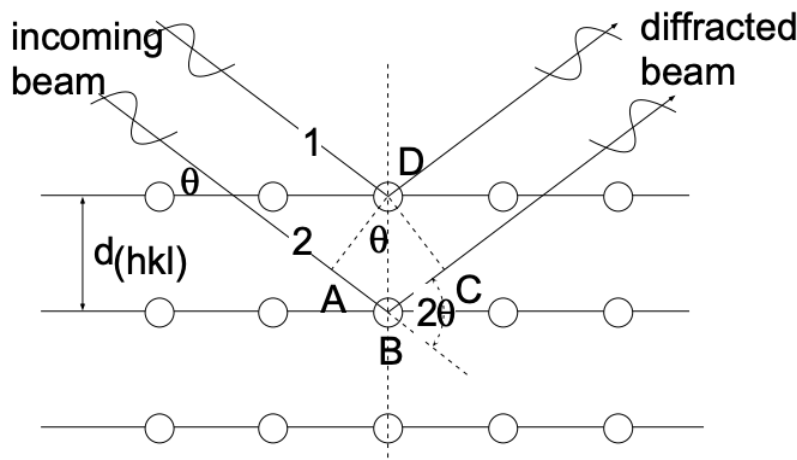
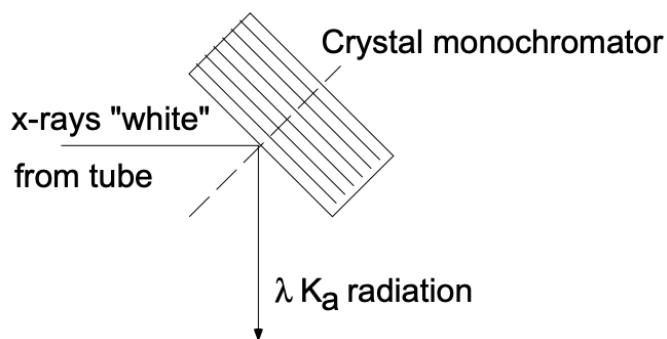
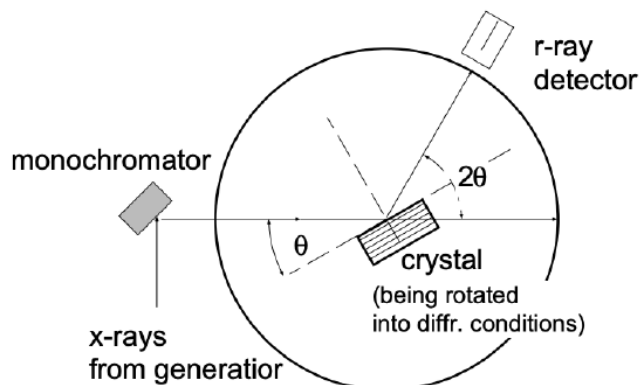

Figure 8 Bragg's law, assuming the planes of atoms behave as reflecting planes.
Figure 10 Isolation of monochromatic radiation from target radiation
Figure 11 X-ray Diffractometer setup.
The geometrical conditions which must be satisfied for diffraction to occur in a crystal were first established by Bragg. He considered a monochromatic (single wavelength) beam of X-rays with coherent radiation (X-rays of common wave front) to be incident on a crystal, as shown in fig. 8. Moreover, he established that the atoms which
For constructive interference of the scattered X-rays (the appearance of a diffraction peak) it is required that the beams, scattered on successive planes, be "in phase" (have again a common wave front) after they leave the surface of the crystal. In terms of the beams labeled 1 and 2 in fig. 8 this requires that the distance  $\overline{AB} + \overline{BC}$  be equal to an integral number of wavelengths ( $\lambda$ ) of the incident radiation. Accordingly:
If we consider fig. 8 as representative for a "diffractometer" set-up (fig. 11), we have a collimated beam of X-rays impinging on a (100) set of planes and at  $2\theta$  to the incident beam a detector which registers the intensity of radiation. For a glancing incident beam (small  $\theta$ ) the detector will register only background radiation. As  $\theta$  increases to a value for which  $2d \sin \theta = \lambda$ , the detector will register high intensity radiation - we have a diffraction peak. From the above it is evident that the diffraction angle ( $\theta$ ) increases as the interplanar spacing,  $d_{(hkl)}$ , decreases.
(b) Fixed  $\lambda$  (Monochromatic X-Rays), Variable  $\theta$ : The basic prerequisite for this approach is the availability of a monochromatic X-radiation of known wavelength ( $\lambda$ ). Such radiation can be conveniently obtained by using a crystal (i.e., its diffracting property) as a filter or monochromator (fig. 10). Filter action is achieved by positioning the crystal in such a way that the unfiltered radiation emitted by the X-ray tube becomes incident at an angle,  $\theta$ , on a set of low index planes which satisfy Bragg's law for the highest intensity radiation ( $K_{\alpha}$ ) emitted. The condition of a fixed  $\lambda$  and variable  $\theta$  is experimentally used in two techniques. Using a **diffractometer** (fig. 11), we place a sample (ground to a powder) into the center of a rotating stage and expose it to a monochromatic X-ray beam. The sample is rotated into diffraction condition and the diffraction angle determined.